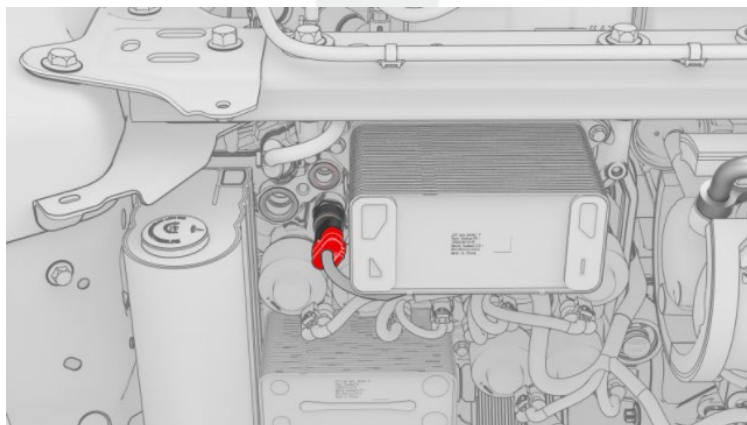
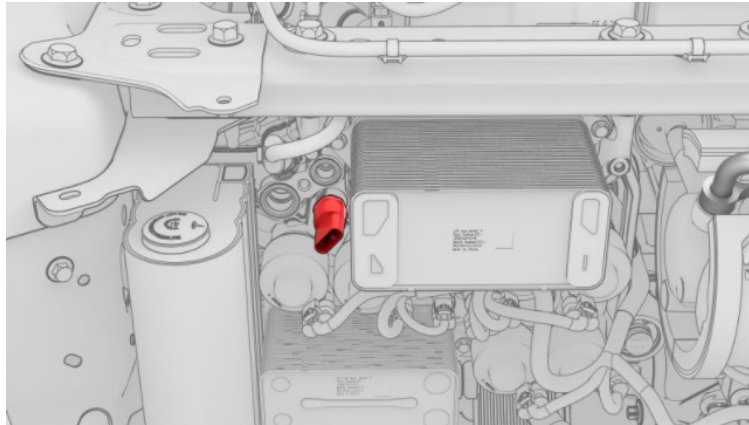

Figure 5
Figure 6
12. Release the locking tab, and then disconnect the electrical harness from the high pressure P/T sensor connector (Figure 5).
13. Use the HVAC socket kit special tool to remove the high pressure P/T sensor from the Supermanifold (Figure 6).
20. Repeat step 19.a through 19.f to install the new high pressure P/T sensor (black connector) into the Supermanifold (Figure 6) and connect the electrical harness (Figure 5).